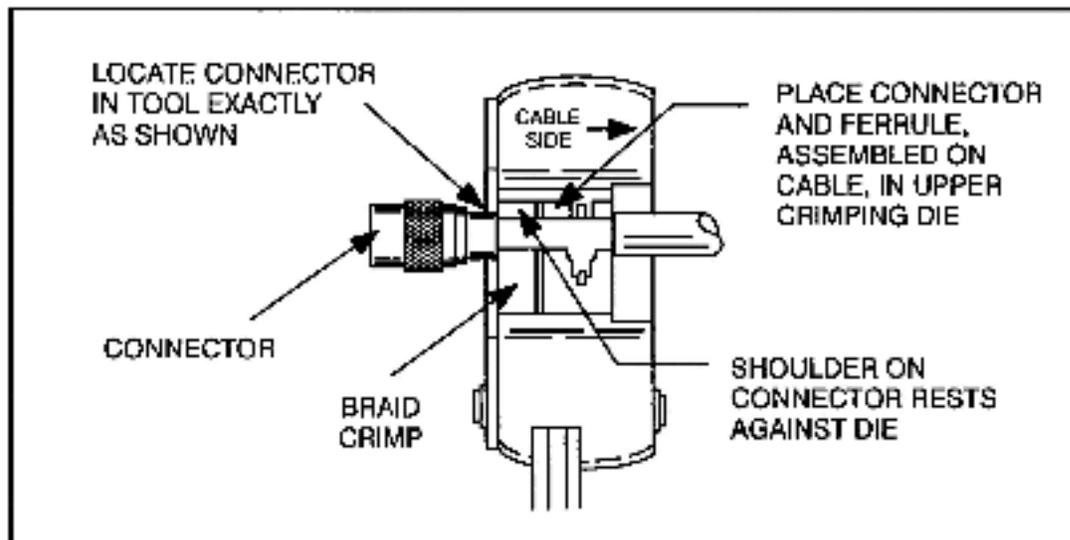

Figure 3.25 - Place Connector Assembly in Tool
- Step 12. Place connector assembly in tool as shown in figure 3.25. Make sure that the ferrule assembled on the cable is on the upper crimping die and that the shoulder on the connector rests against the die, as shown.